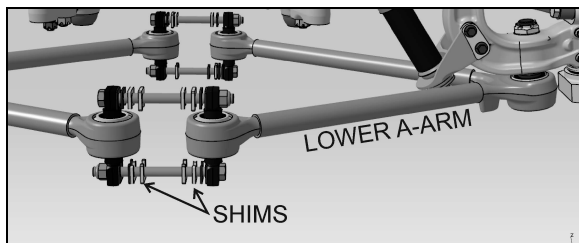
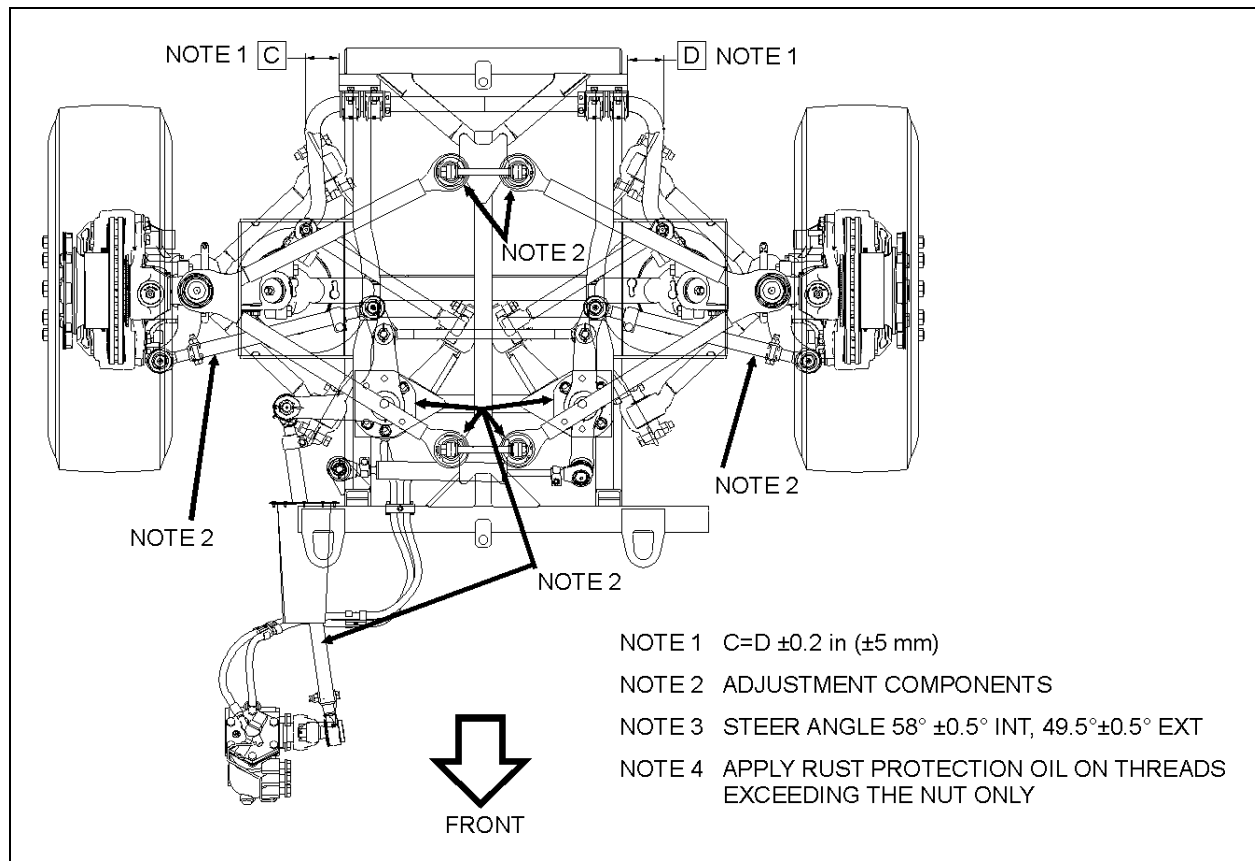
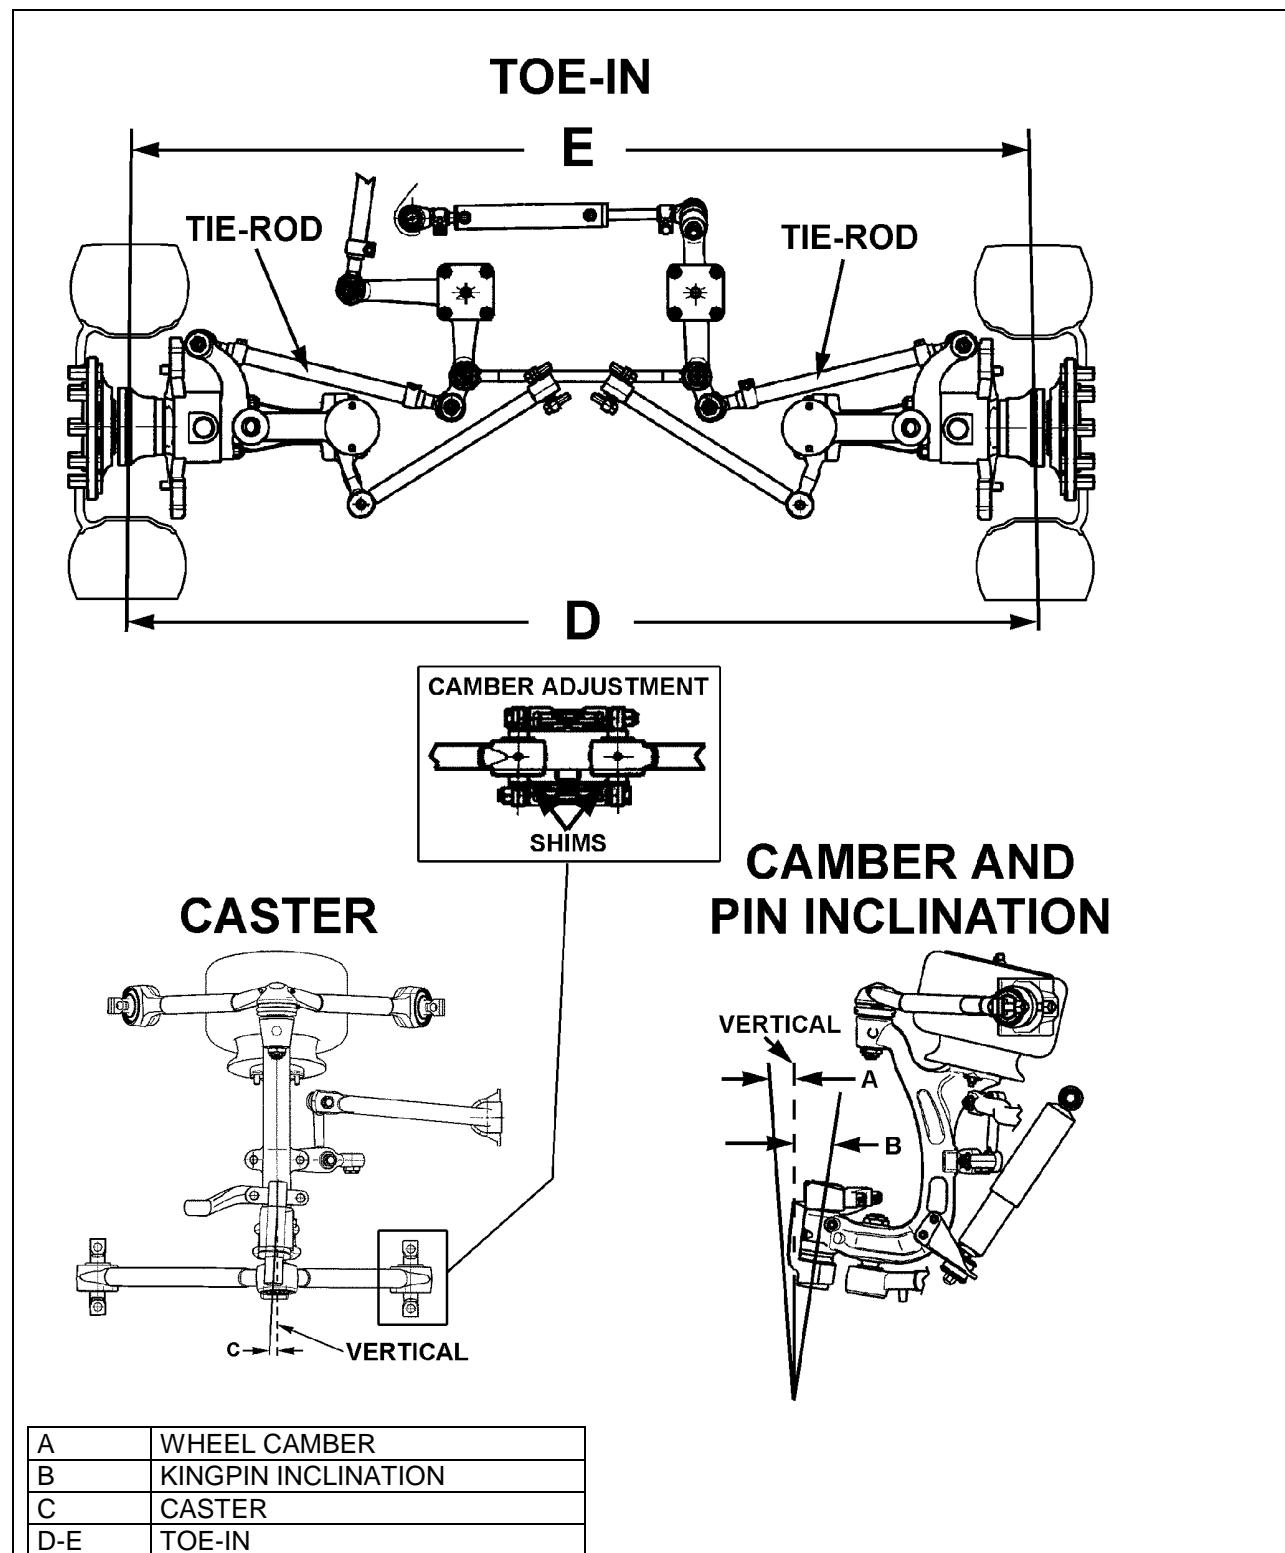

FIGURE 22: SHIMS AT THE LOWER A-ARMS
FIGURE 25: IFS ADJUSTMENT
FIGURE 26: FRONT END ALIGNMENT DIAGRAM
**Wheel Camber:** Camber is the number of degrees the top of the wheel is tilted inward or outward from a true vertical (Figure 26).
(D minus E, Figure 26).
**Kingpin Inclination:** The inclination of the kingpin from vertical toward the center of the vehicle at the top and outward at the bottom (B, Figure 26).
**Front Axle Caster:** The inclination of the kingpin from vertical in the fore and aft direction (C, Figure 26).
Shim the lower A-arm to adjust camber (Figure 22 & FIGURE 25). If the kingpin inclination is incorrect, the wheel kingpin assembly may be bent and therefore should be replaced.
- Using a pipe wrench, turn the tie rod tubes to obtain the toe-in measurement specified in step 5 under paragraph "Toe-in Check" (Figure 26).
Caster variations may be caused by bent upper suspension A-arm, lower suspension A-arm, or kingpin housing. Caster should be adjusted with shims. Precision instruments should be used to measure caster. Shim bell crank and idler arm to adjust caster (Figure 26).
See FIGURE 25 & Figure 26.